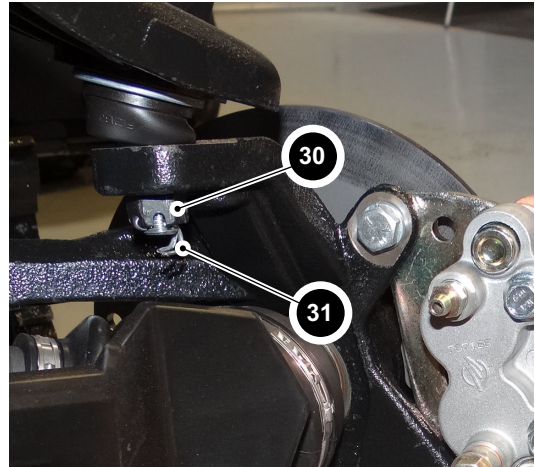

Fig. 9 Spindle Nut and Cotter Pin
Remove the cotter pin (31) and castle nut (30) that secure the spindle to the upper control arm (Ref. Fig. 9). Tap the spindle assembly downward with a hammer to separate it from the ball joint (Ref. Fig. 8).